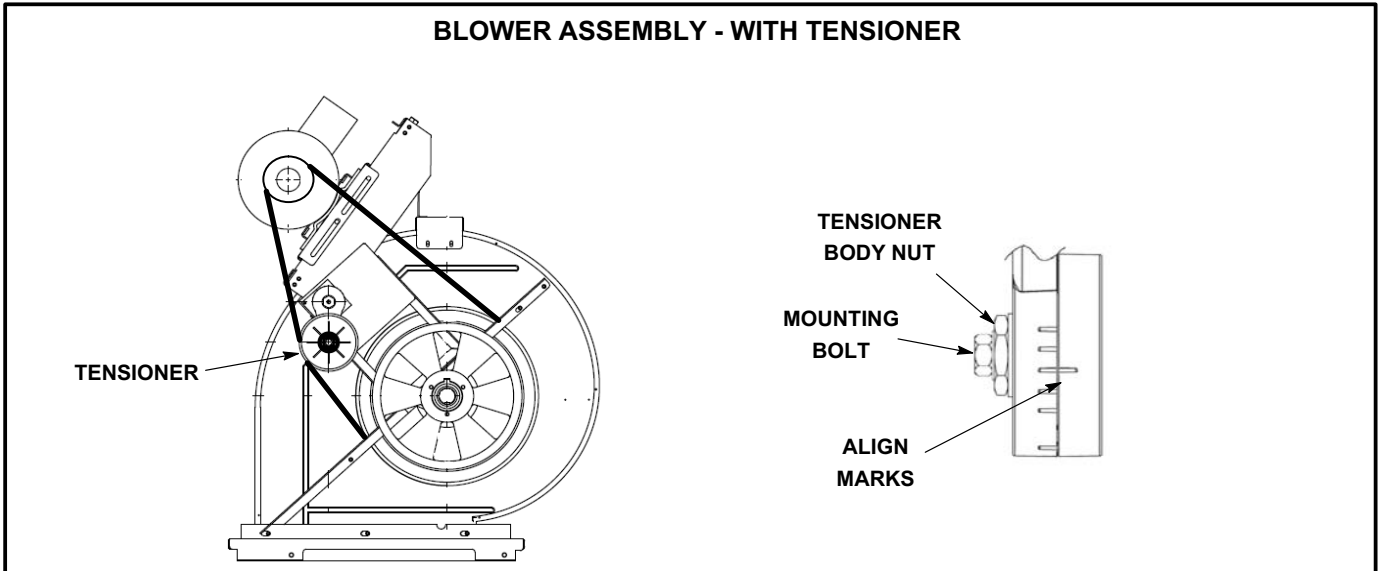

FIGURE 22
- 1- Loosen the bolt in the center of the tensioner. See figure 22.